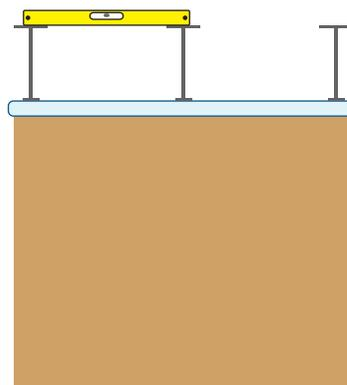

Figure 2
4. A level should be used to ensure the brackets remain level while tightening. Place level across the top plates of the brackets. Tightened screw by securing the nut with a wrench and turning the bolt with a screwdriver, (Figure 2).